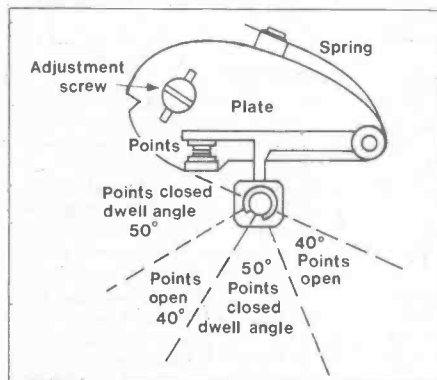
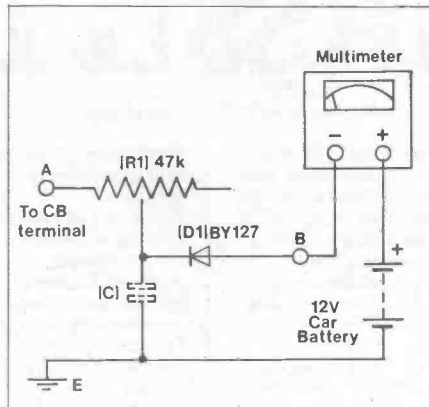

Figure 1.
Figure 2.
A more accurate method of measuring the gap is by using a dwell meter and measuring the number of degrees during which the contacts are closed, which is referred to as the dwell angle. Figure 1
closed. This angle can be increased by closing the gap, or decreased by opening the gap. See Figure 1. A Dwell Meter could be purchased at a cost of £12 upwards, but the dwell angle can be measured using a multimeter in conjunction with the simple circuit shown in Figure 2. The principle on which the dwell angle is measured, is by observing the duty cycle of the voltage waveform across the points. When points are open, the multimeter will read zero and when the points are closed, the multimeter will read 90.
If the dwell angle is not in accordance with the dwell angle stated in your repair manual, the points must be adjusted to give the correct dwell angle by closing the points to increase the dwell angle and opening the gap to decrease the dwell angle. If the reading is unsteady, you may be able to improve the condition by putting in a capacitor of about $0.047\mu\text{F}$ to smooth the circuit as shown by dotted lines (C) in Figure 2. The